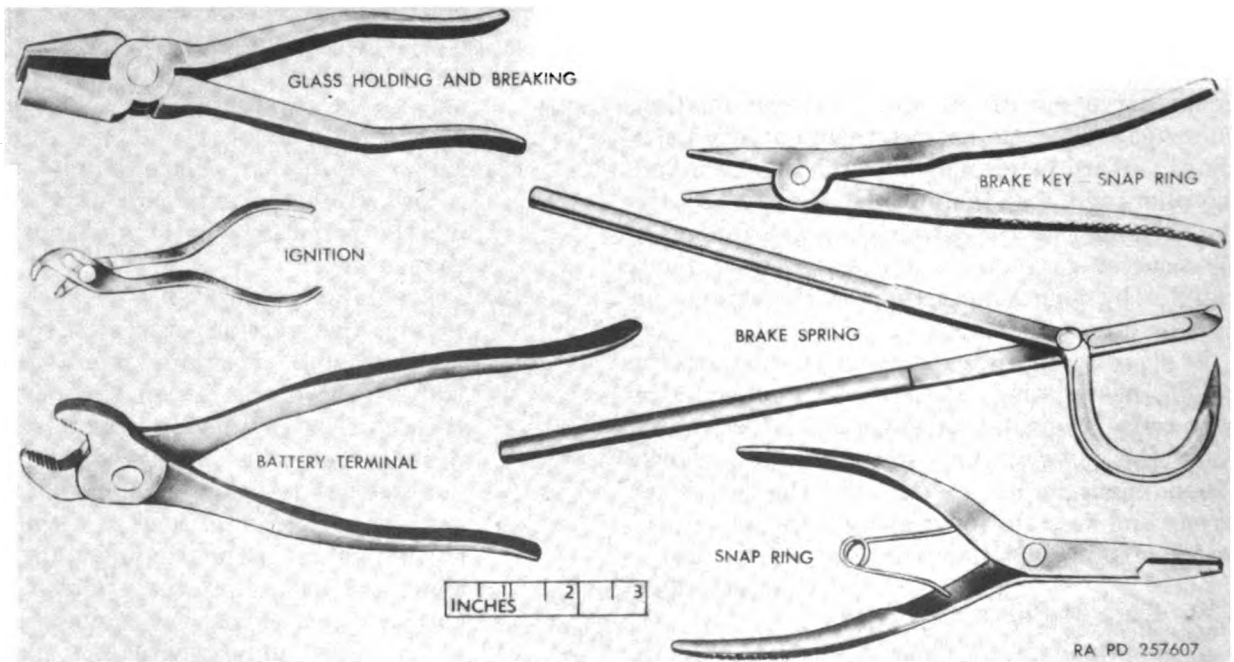

Figure 137. Special purpose pliers.
e. *Special Purpose Pliers* (fig. 137). Some pliers are made for specific jobs, such as the brake spring pliers, glass holding and breaking pliers, ignition pliers, battery terminal pliers, and brake key and snap ring pliers.